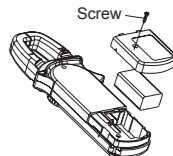

Figure 10
- If the reading is positive, the current direction is from bottom to up. See figure 10, the front case face up while the bottom case face down. Hold the Meter tight, do not release suddenly. The built-in Hall components are very sensitive not only to the magnet but also to heat and machines reaction force. Any shock will cause the changing in reading in the short time. Following the below procedure to measure AC current will obtain a more precise reading:
B. Replacing the Battery (See Figure 10)